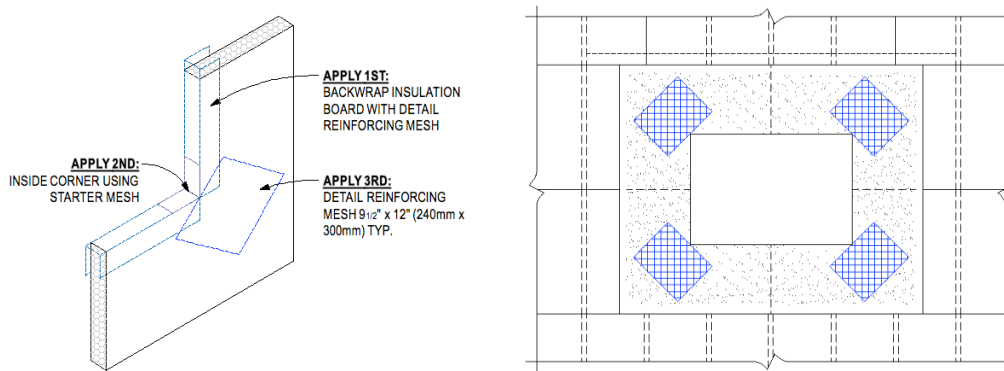

Figure 8
- .1 At openings, align the insulation boards so that the edges (vertical and horizontal joints) do not coincide with the corners of the opening as illustrated in Figure 8 (refer to Dryvit Outsulation MD/Outsulation MD NC System Installation Details, DSC167).
- .18 Corners of all openings such as windows, doors, mechanical equipment and all penetrations shall be reinforced with Detail Mesh placed diagonally to the opening as illustrated in Figure 8 previously.